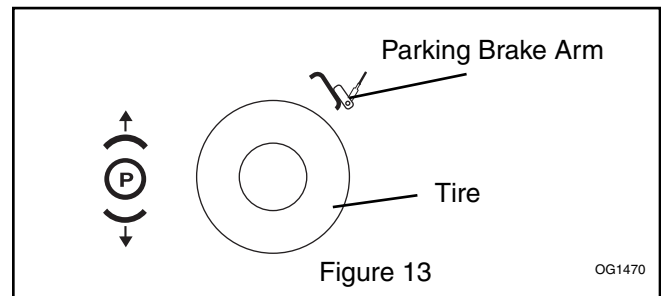

Figure 13
2. Push lever forward (Figure 13).